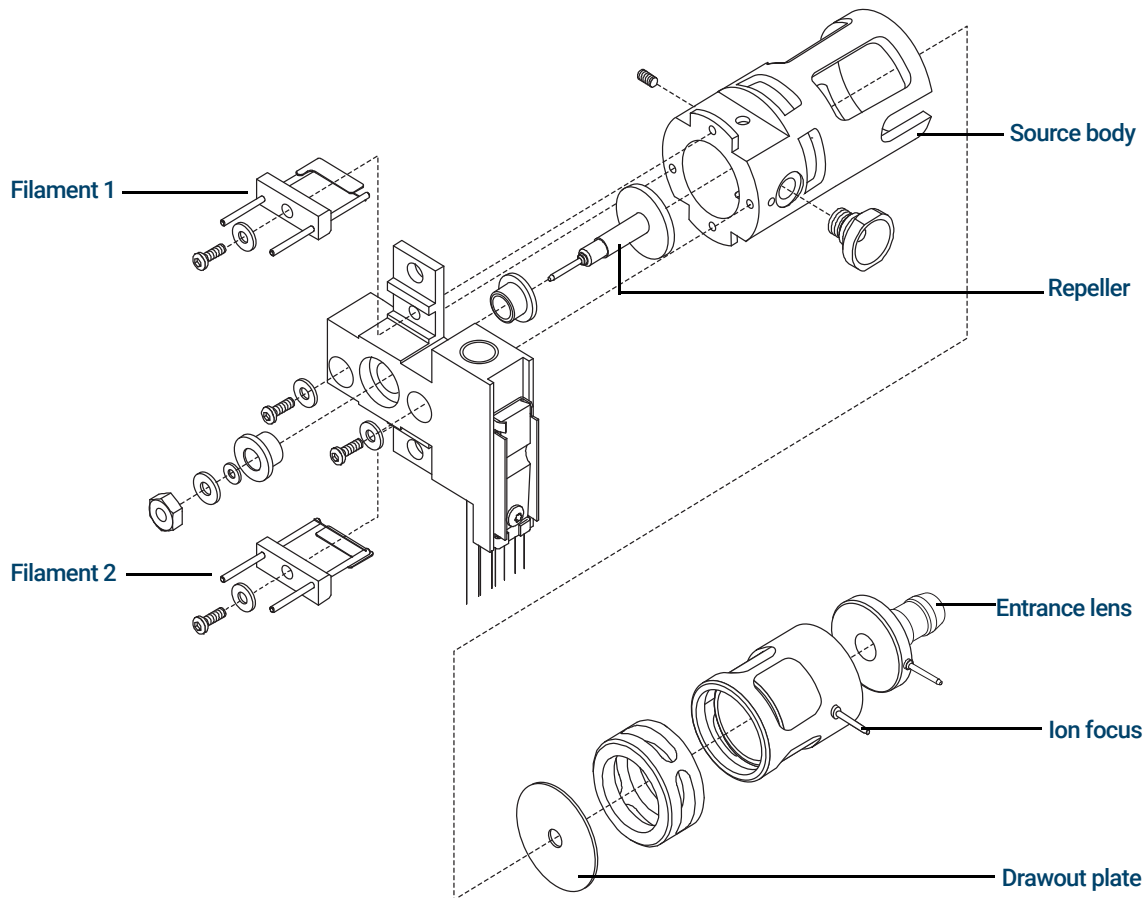

Figure 5. EI source with static drawout lens
**Figure 5** on page 21 shows an exploded view of an EI source. There are two types of lens stacks for the EI sources available for the Agilent 5977 Series MSD. The source type pictured uses a nonadjustable static drawout plate lens, and adjustable ion focus and entrance lenses. The other type of lens stack available replaces the static drawout lens with an adjustable voltage extractor lens for improved sensitivity.